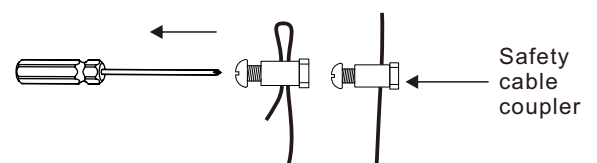
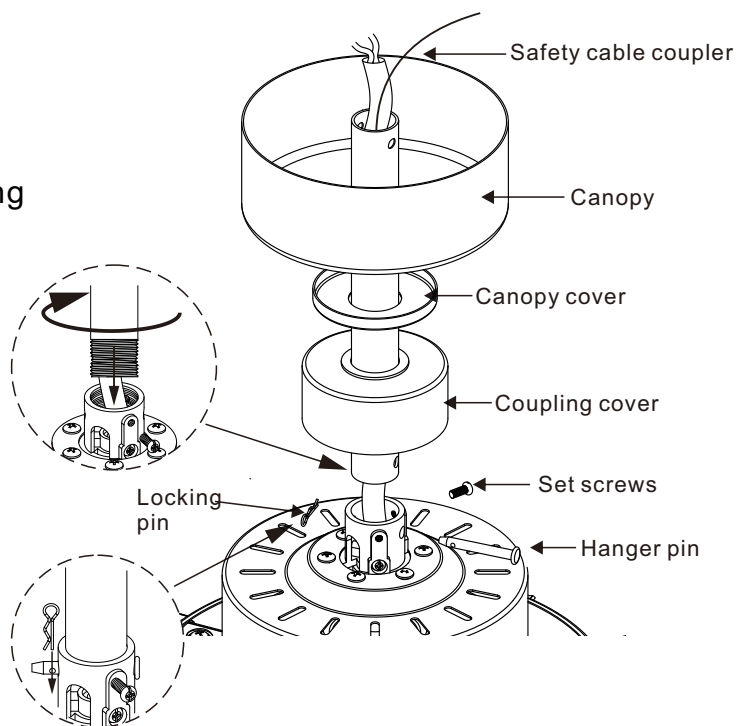

Figure 12
Figure 13
(Fig. 12)
Step 5. Route wires exiting from the top of the fan motor through the coupling cover, canopy cover and canopy, then through the ball/ downrod. (Fig. 13)
Step 6. Thread downrod into the motor coupling until the holes on the downrod and coupling are lined up (Fig.12) Carefully insert the hanger pin through the holes in the collar and downrod. Be careful not to jam the pin against the wiring inside the downrod. Insert the locking pin through the hole near the end of the hanger pin until it snaps into its locked position, as noted in the circle inset off (Fig.13)
Step 7. Tighten two set screws against the downrod on the coupling firmly. (Fig. 13)